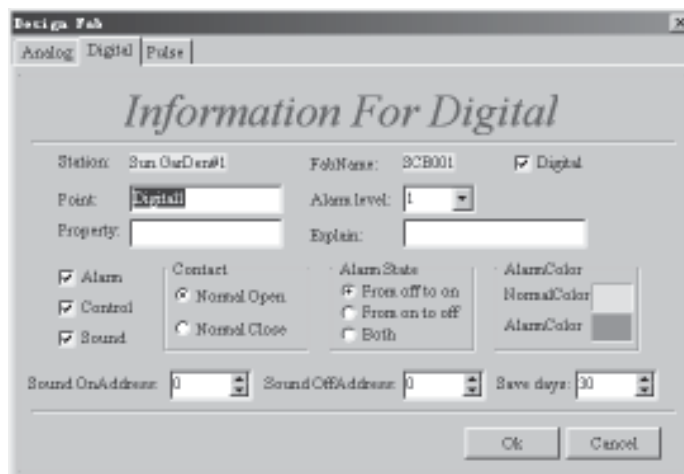

Fig. 4-13 Defining the Port I2 of FAB SGB001
Step 3. Define Port I2 of FAB SGB001 in the same methods as the above in Fig. 4-13.